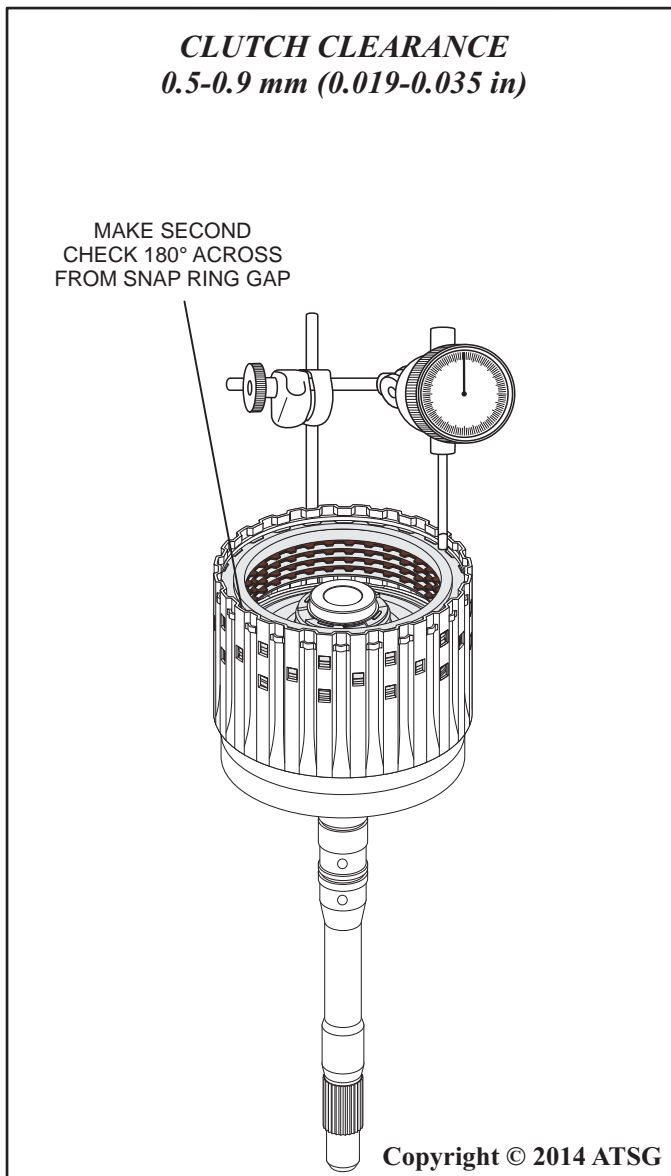

Figure 79
22. Using ST Clutch End Play Gauge 307-555 and Holding Fixture 100-002 or similar holding fixture and adapter, set the overdrive drum into the fixture and install the dial indicator positioning the plunger so it fits into the opening of the snap ring as shown in Figure 79.
24. Add measurements A and B together and divide the sum by 2 to give an average clearance reading. Clearance should be between 0.5-0.9 mm (0.019-0.035 in) as shown in Figure 79.